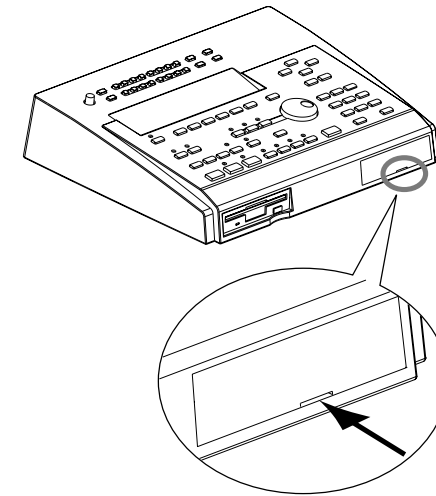

fig.7
- Wrap the tip of a flat head screwdriver with a cloth or similar material and insert it as shown in the figure. Inserting the screwdriver directly without covering the tip can scratch the body. Always cover the tip first. (See fig.7)
ドライバーを直接差し込むとボディーに傷がつきます。必ず布をご用意ください。(fig.7 参照)